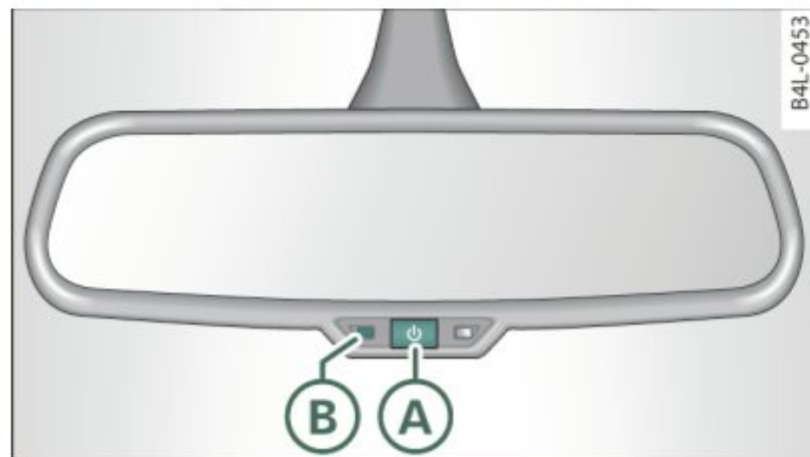

Fig. 88 Inside rear view mirror
- Press button (A) ⇒ page 94, fig. 88 briefly, - the green indicator light (B) goes out.